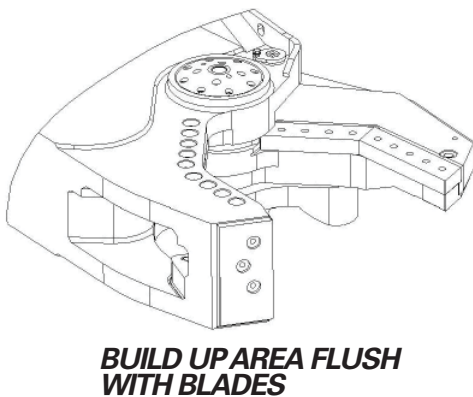

FIGURE 5-23
2. To determine how much build up is required along the blade seats, place a straightedge across the blades. Repeat steps 4 and 5 to build this area flush with the blade (see **Figure 5-23**).